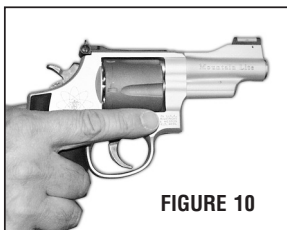

FIGURE 10
- Grasp the revolver in the shooting hand with your finger still outside the trigger guard (Fig. 10).
Your revolver is now fully loaded. The hammer is in the “at rest” position as shown in FIGURE 10.